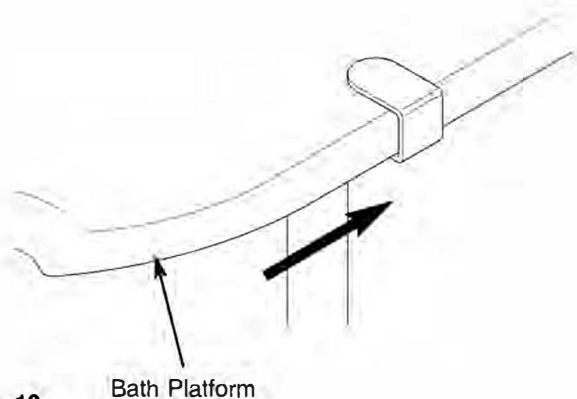

Fig. 10
4. Holding the locking device with the cranked end upwards (fig. 9), slide the device along the platform with the length of the device below the platform (fig. 10).
5. Continue to slide the locking device along the platform until it engages with the groove on the support post (fig. 10).